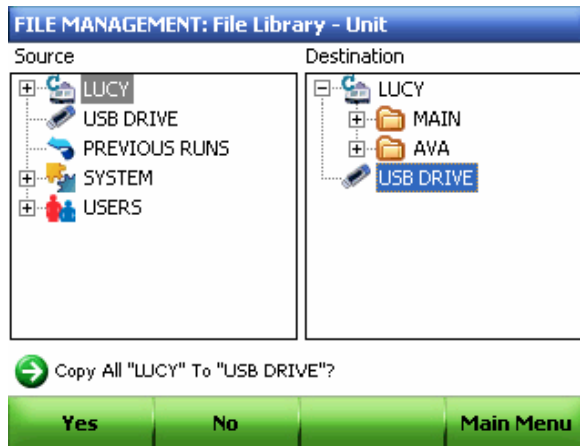

Figure 82. Select the destination folder where all files are going to be copied.
4. Destination choices appear in the right side window as shown in Figure 82.